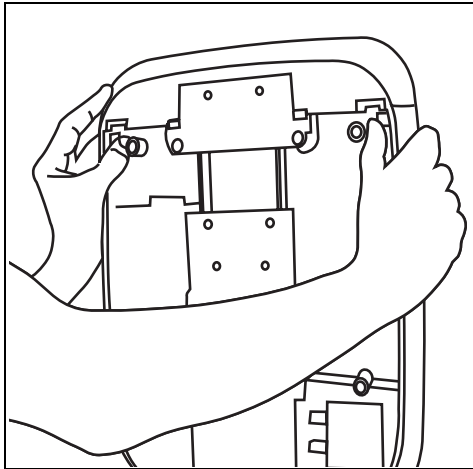

Figure 6: Remove entertainment option cover
2. Remove the entertainment option cover. See Figure 6. Tabs exist on either side of the cover. Press in on the tabs and the cover pops off. You can discard the entertainment option cover.